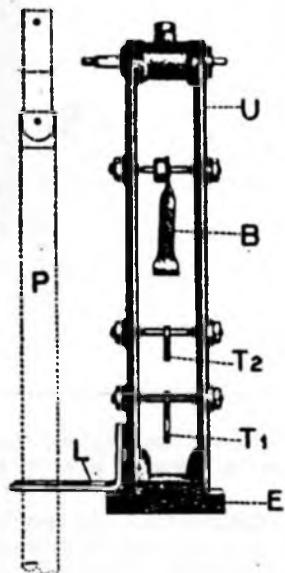

FIG. 2.—“CLOCK NO. 46”. SIDE VIEW OF IRON CARRIAGE.
**2. Operation.**—The carriage U (Fig. 2) is linked to the pendulum by the forked detail L, and swings in unison with the pendulum. Carriage U carries all the controlling toggles and pawls, whose functions are as follows:—